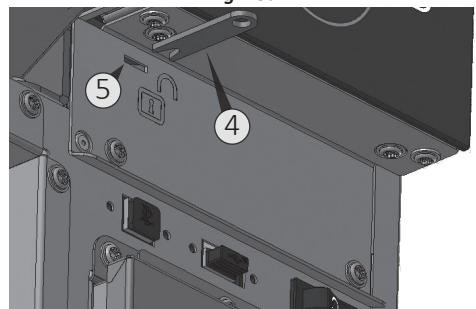

Fig. 13b
- insert the key into the hole (4 Fig. 13b);
- upon the door unlock take out the key (5 Fig. 13b).